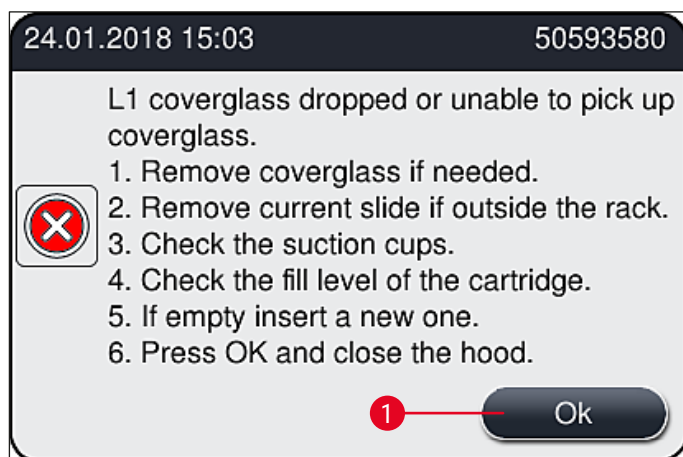

Fig. 110
If the **Pick&Place module** loses a coverglass during transport to the slide or if the **Pick&Place module** cannot remove a coverglass from the coverglass cartridge after 3 attempts, the user is notified of this through an error message (→ Fig. 110).
- ① If this message (→ Fig. 110) is displayed, the user must first check whether a coverglass has been lost during transport to the slide or whether the **Pick&Place module** was unable to take a coverglass from the coverglass cartridge.